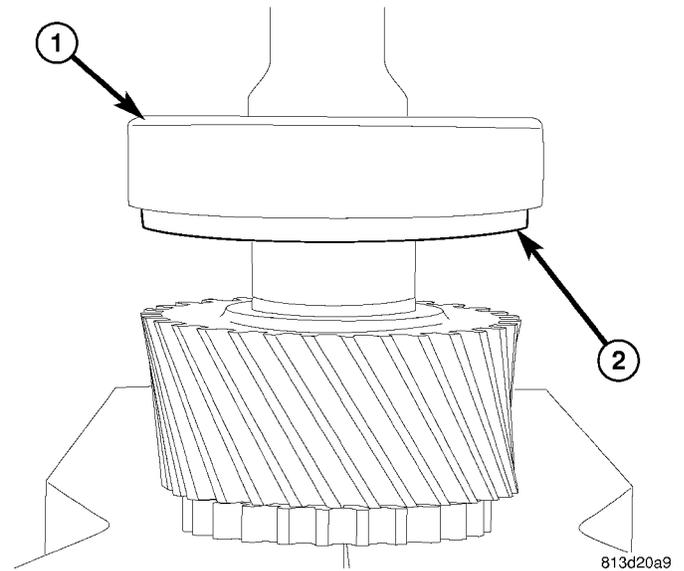

Fig. 92 INPUT SHAFT BEARING LIP
(1) Install input shaft bearing (1) (Fig. 92) on input shaft with the bearing retainer lip (2) facing fifth gear.